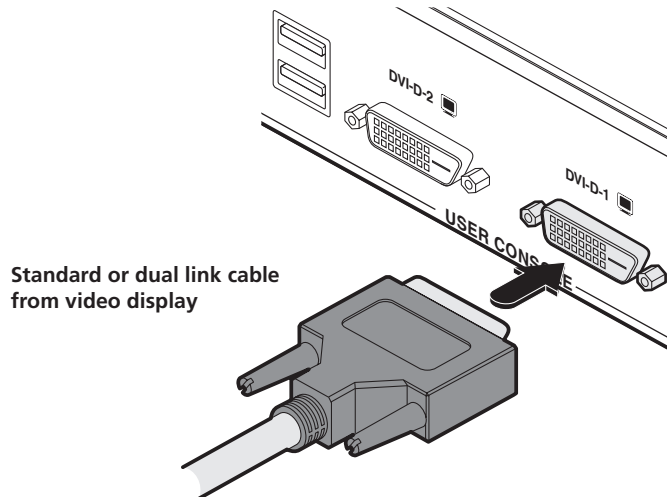

Figure 3-17. Connect the standard or dual link digital video cable to the DVI-D-1 socket.
- 1 Use either a standard or Dual Link DVI-D cable to connect the video display to the DVI-D-1 connector of the ServSwitch Agility Dual remote unit. See Figure 3-17. Note: For very high resolution displays, a dual link cable must also be used at the Local unit.